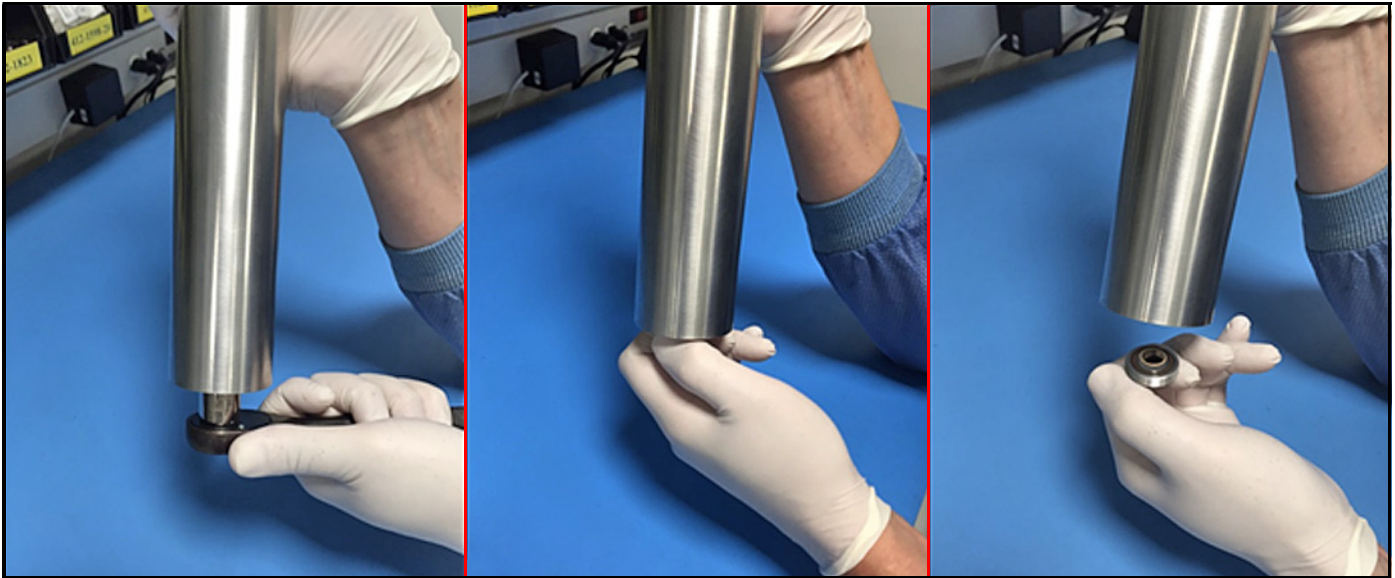

Figure 92: Removing Mirror End Cap Assembly from the Absorption Cell
1. Using a 5/8" socket wrench to loosen the hex head of the mirror assembly, gently unscrew the mirror assembly from the bottom of the absorption cell. While *Figure 92* below shows this procedure for a dismantled cell, it is **NOT** necessary to dismount the optical absorption cell assembly to remove the mirror.